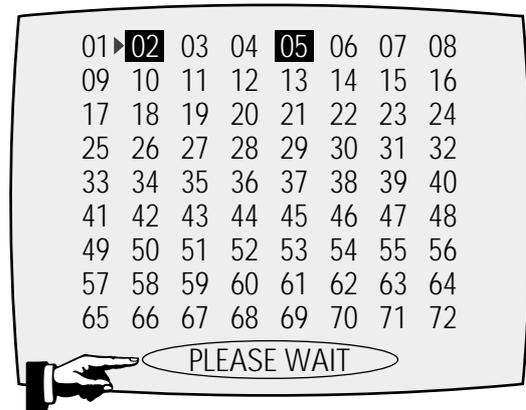

Fig. 2-5
- 5) Press the "MENU" button of remote control again to store the option number. ("PLEASE WAIT" is displayed for a second as shown Fig. 2-5 and this setting is completed.)